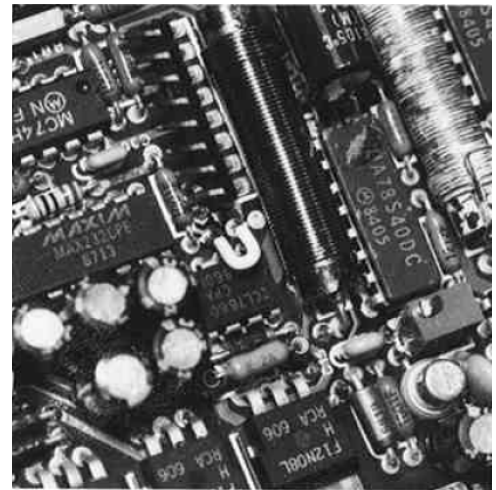

Figure E-3. Removing the jumper wire
Step 2. Remove the jumper wire between the two pads marked by an arrow (fig. E-3).